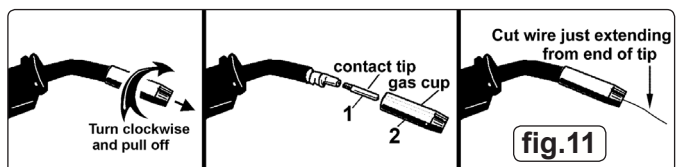

fig.11
- 6.4. **CONTACT TIP** The contact tip is a consumable item and must be replaced when the hole becomes enlarged or oval. The contact tip MUST be kept free from spatter to ensure an unimpeded flow of gas. Refer to fig.11 and section 3.9 for removal and replacement.